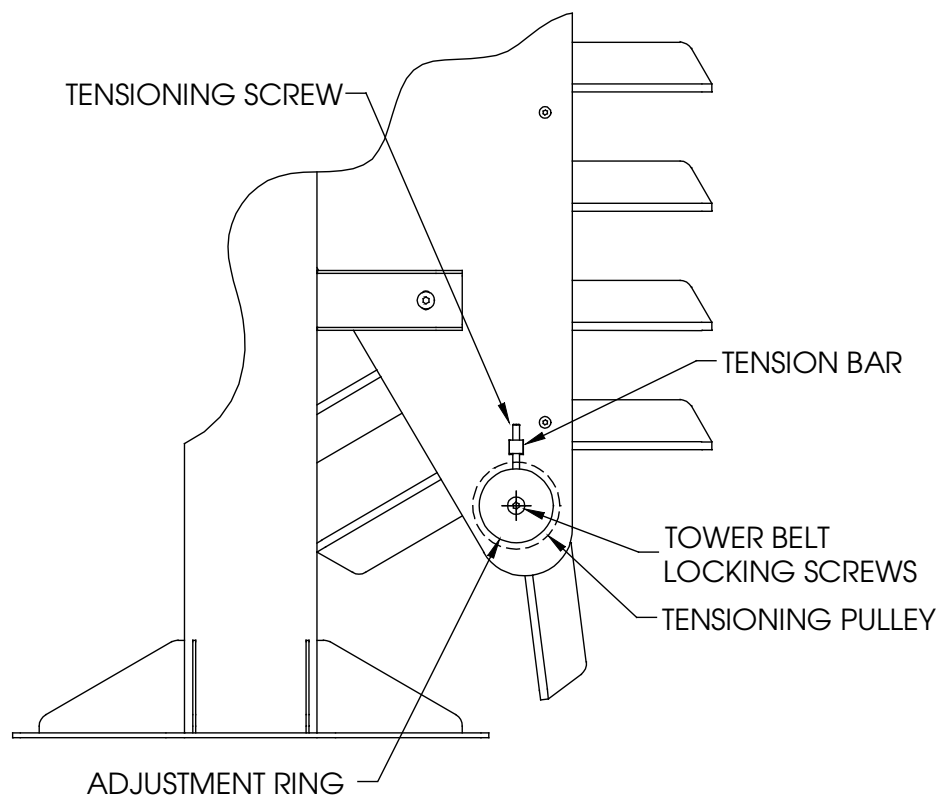

Figure 18. Tower Belt adjustment
2. Loosen the (2) two Tower Belt Locking Screws (7/32 Hex Key), shown in Figure 18, that hold the Tensioning Pulley in place. Rotate both of the screws  $\frac{1}{4}$  turn.
7. Tighten the (2) two Tower Belt Locking Screws to lock the Tensioning Pulley.